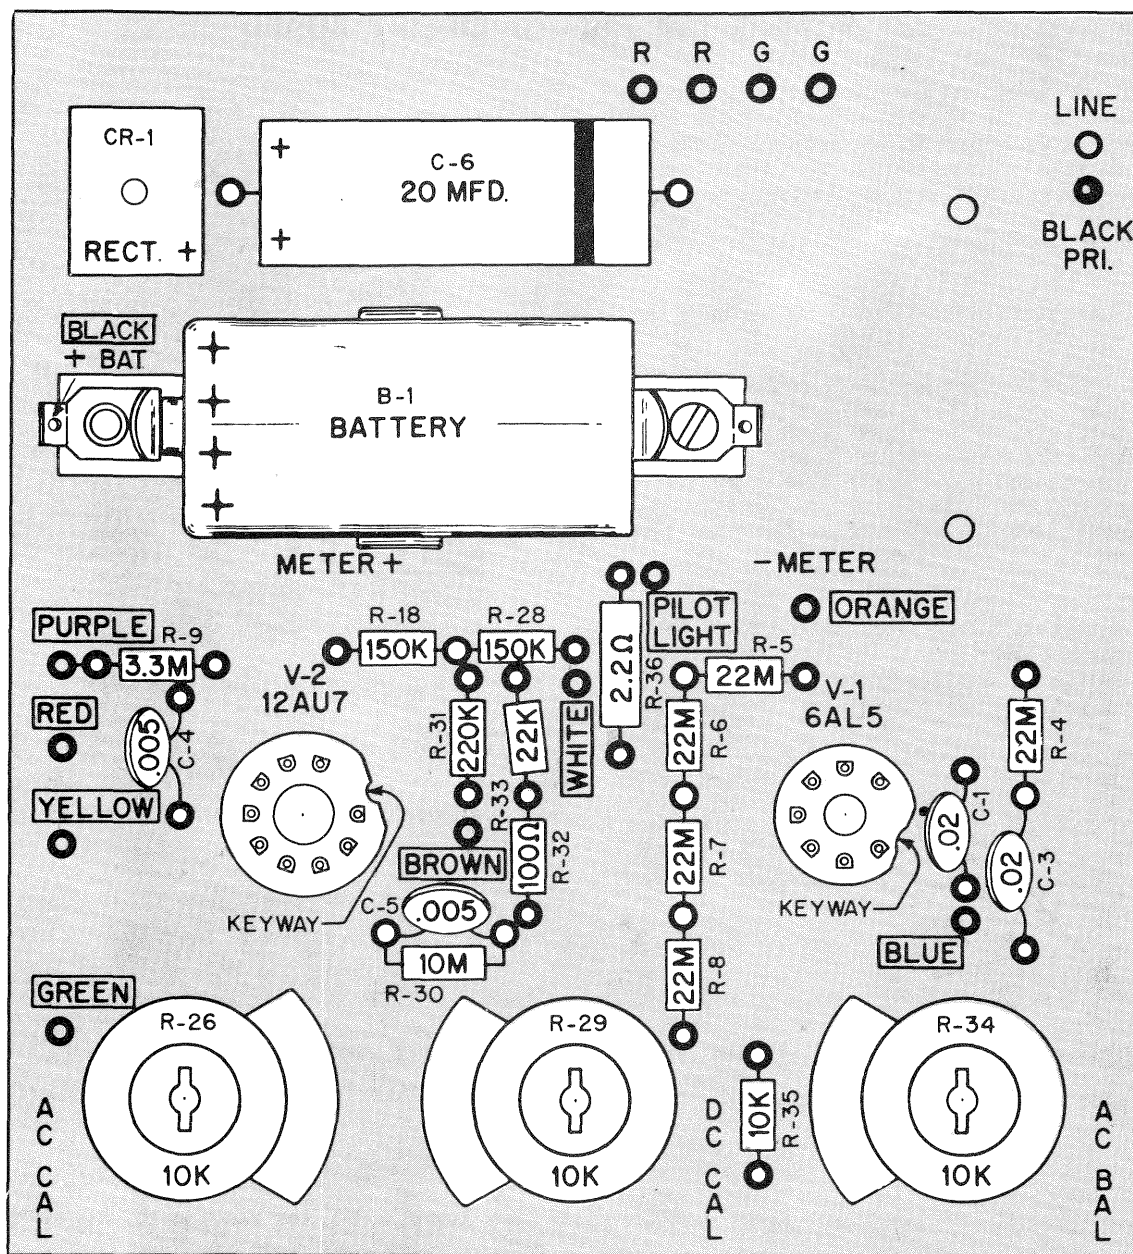

FIGURE 11. MOUNTING THE PARTS ON THE PRINTED CIRCUIT BOARD
1. INSERT the wire leads of the parts through the holes as shown in Figure 11.
### SEE FIGURE 11.
### SEE FIGURES 11 AND 12.
- (✓) Mount R-9, 3.3 Megohm resistor (orange, orange, green) as shown in Figure 11.